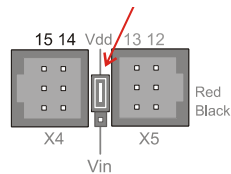

Figure 2-8
- ✓ Set the jumper between the X4 and X5 servo to Vdd (+5 V) as shown in Figure 2-8. The jumper should cover the two pins closest to Vdd, and the third pin next to Vin should be visible.